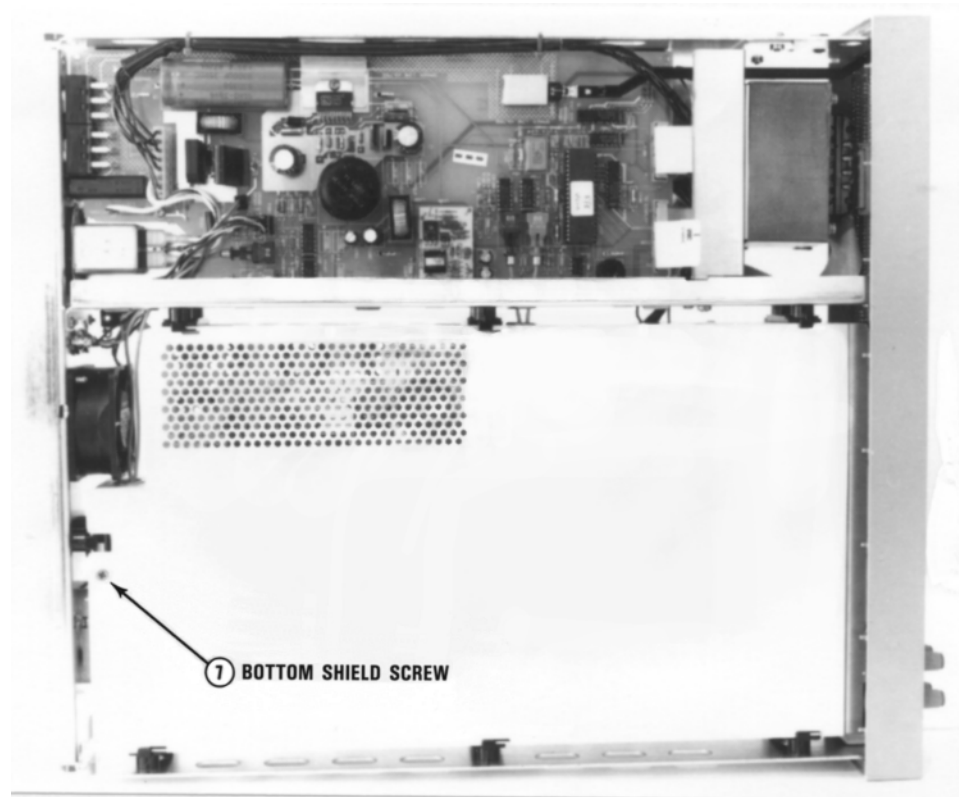

Figure 10. Remove/Install Bottom Shield Screw
15. Refer to Figure 10. Use the #TX10 Torx driver to remove the bottom shield screw. Then remove the shield. Pull the shield toward the rear of the instrument until the shield retainers line up with the slots in the shield. Lift the shield off.
6. Refer to Figure 10. Turn the instrument over so its top sits on your workbench.